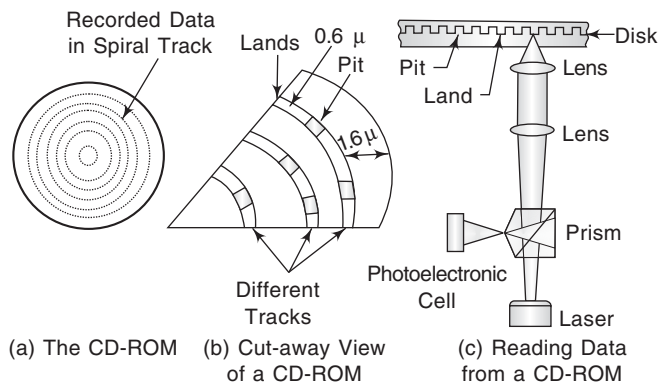

Fig. 15.39 CD-ROM.
A very prominent type of read-only storage used today in computer systems is the *compact disk* (CD). The disk technology and the hardware necessary to retrieve the information are the same as those used in audio systems. Only the *format* of the data is different. The disks are manufactured with a highly reflective surface. To *store* data on the disks, a very intense laser beam is focused on a *very* small point on the disk. The heat from this beam burns a light-diffracting pit at that point on the disk surface. Digital data (1s and 0s) are stored on the disk one bit at a time by *burning* or *not burning* a pit into the reflective coating. The digital information is arranged on the disk as a *continuous spiral* of data points. This is shown in Figs 15.39(a) and (b). The precision of the laser beam allows very large quantities of data (over 550 Mbytes) to be stored on a small, 120-mm disk.
In order to *read* the data, a much less powerful laser beam is focused onto the surface of the disk (see Fig. 15.39(c)). At any point, the reflected light is sensed as either a 1 or a 0. This optical system is mounted on a *mechanical carriage* that moves back and forth along the radius of the disk, following the spiral of data as the disk rotates. The data retrieved from the optical system come one bit at a time in a serial data stream. The angular rotation of disk is controlled to maintain a constant rate of incoming data points. If the disk is being used for audio recording, this stream of data is converted into an analog waveform. If the disk is being used as ROM, the data are decoded into parallel bytes that computer can use. The CD player technology,